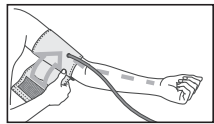

Fig.8
2. Wrap the cuff around your upper arm so that the bottom of the cuff is approximately 2-3 cm above your elbow. Air tube should be directed towards the palm (Fig. 8).